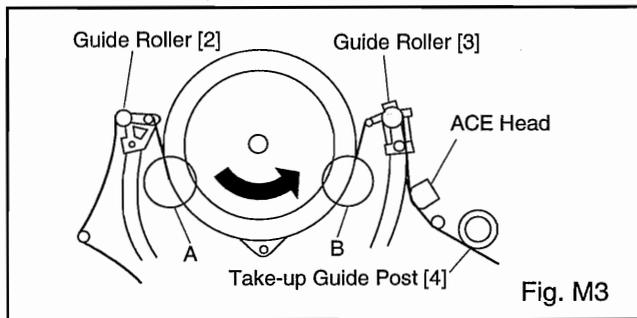
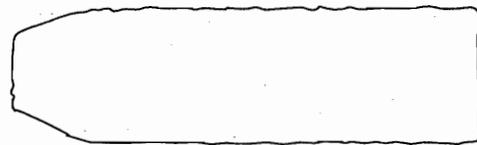
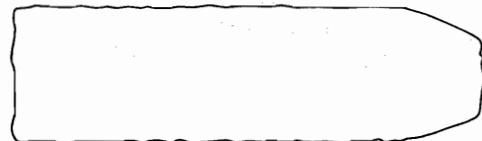

Fig. M3
Fig. M7
Fig. M8
1. Play back a blank cassette tape and check to see that the tape runs without creasing at Guide Rollers [2] and [3], and at points A and B on the lead surface. (Refer to Fig M3 and M4.)
2. If creasing is apparent, align the height of the guide rollers by turning the top of Guide Rollers [2] and [3] with a Guide Roller Adj. Screwdriver. (Refer to Fig. M3 and M5.)
3. Check to see that the tape runs without creasing at Take-up Guide Post [4] or without snaking between Guide Roller [3] and ACE Head. (Fig. M3 and M5)
2. Play back the Gray Scale on the Alignment Tape (FL8N). Set the Tracking Control Circuit to the center position by pressing the CH UP and then the PLAY button on the VCR. Adjust the height of Guide Rollers [2] and [3] (Fig. M3, Page 2-3-3) watching the oscilloscope display so that the envelope becomes as flat as possible. To do this adjustment, turn the top of the Guide Roller with the Guide Roller Adj. Screwdriver.
3. If the envelope is as shown in Fig. M7, adjust the height of Guide Roller [2] (Refer to Fig. M3) so that the waveform looks like the one shown in Fig. M9.
4. If the envelope is as shown in Fig. M8, adjust the height of Guide Roller [3] (Refer to Fig. M3) so that the waveform looks like the one shown in Fig. M9.
5. When Guide Rollers [2] and [3] (Refer to Fig. M3) are aligned properly, there is no envelope drop either at the beginning or end of track as shown in Fig. M9.
**Note:** Upon completion of the adjustment of Guide Rollers [2] and [3] (Refer to Fig. M3), check the X Value by pushing the CH UP or DOWN buttons alternately, to check the symmetry of the envelope. Check the number of pushes to ensure center position. The number of pushes UP to achieve 1/2 level of envelope should match the number of pushes DOWN from center. If required, redo the "X Value Alignment."